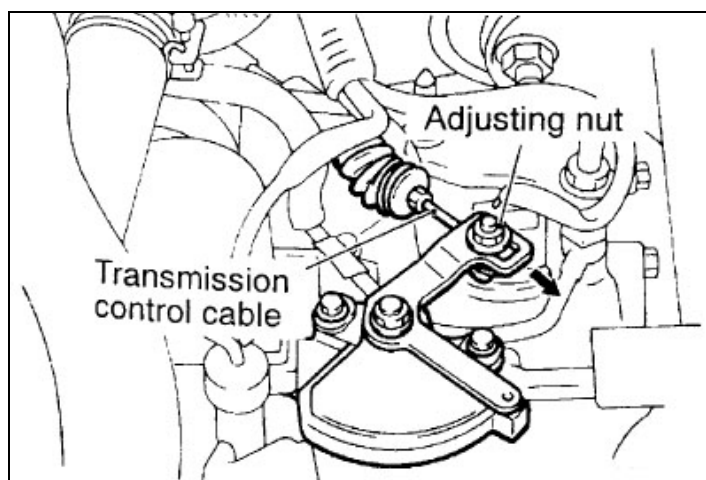

Fig.11-140
3) shift cable operation check as Fig.11-140